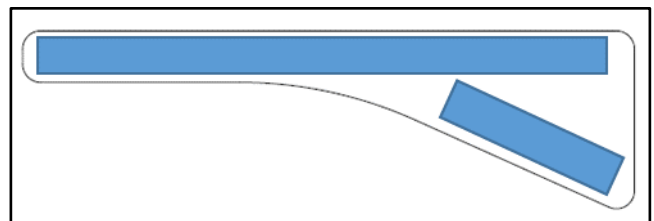

Figure 1
5. Attach the double-sided tape to one side of one of the plastic parts. (Refer to Figure 1.)